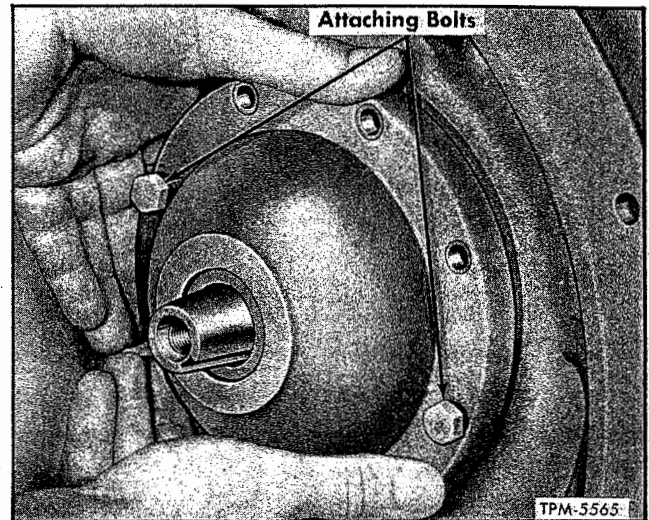

Figure 19—Method of Removing Crankshaft Seal Cover
1. Loosen and remove all but two opposed cap screws which retain seal cover (12) to compressor housing (8) (fig. 19). Slowly and alternately turn remaining two cap screws from housing making sure seal cover follows screws. Seal spring should force cover from compressor housing. If necessary, tap cover lightly with plastic hammer to break seal between cover and housing.
2. Remove seal cover evenly from compressor shaft so as not to damage seal assembly (50). Pull seal assembly carefully from compressor shaft.
3. Remove rubber O-ring seal (13) from seal cover or bearing head.